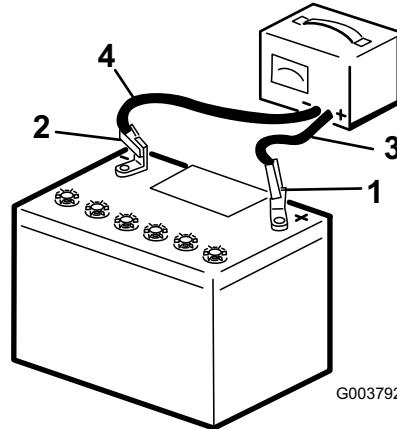

Figure 6
2. When the battery is fully charged, unplug the charger from the electrical outlet, then disconnect the charger leads from the battery posts (Figure 6).
1. Connect a charger to the battery (Figure 6) and charge it for a minimum of 1 hour at 6 to 10 amps. Do not overcharge the battery.